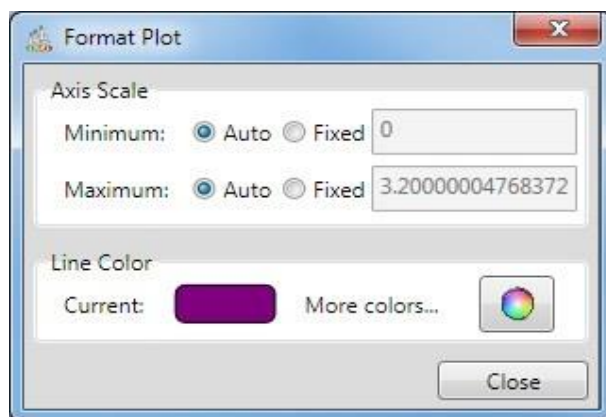

Figure 4-4: Format Plot
2. Legend: The value next to each item is the value of the item at the yellow box date and time (①) time on the X axis. If the cursor is not within the plot area, the values are as at the right-hand extreme end of the plot lines. To change the plotted colour of an item, a double click on the legend colour launches a format dialog as shown in Figure 4-4.